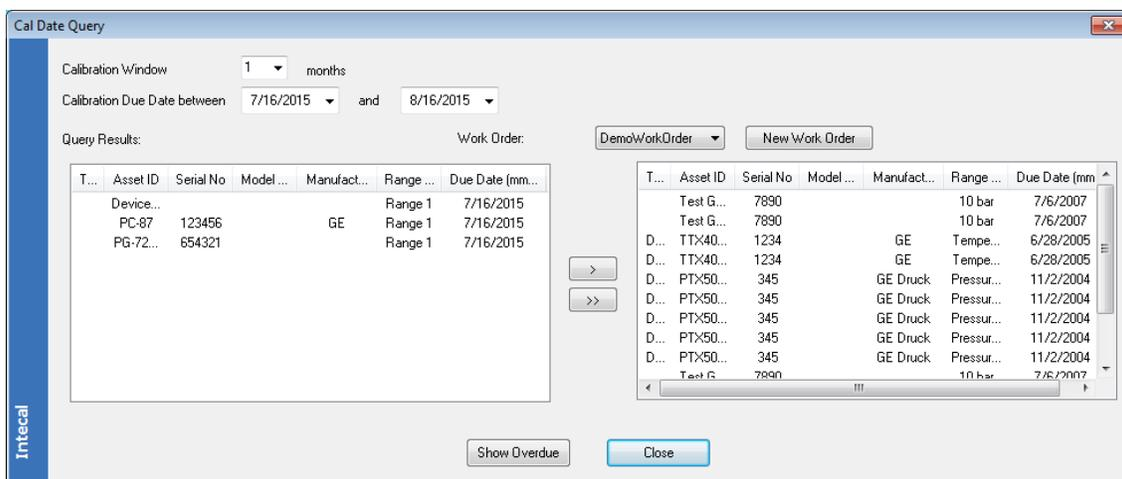

Figure 6-2: Calibration History
- Click on the *Cal Date Query* button. This facility lets you set calendar limits for *Devices* that are overdue for calibration. You can then move the applicable *Devices* into a *Work Order*. See Figure 6-2.
1. In the *Work Orders* window (Figure 6-1), click on the *Cal Date Query* button. See Figure 6-2. The window shows all the applicable *Devices* in the *Query Results* panel.